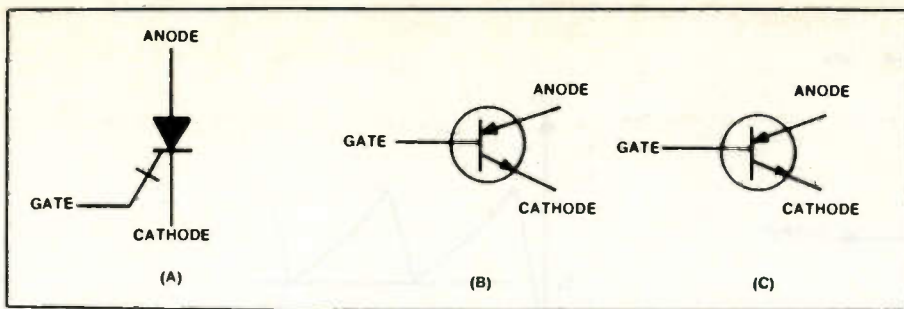
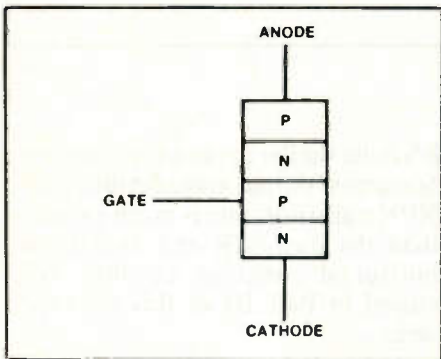

Figure 17.
Figure 18.
You should think of the GTO simply as a special type of SCR with gate turn-off capabilities. Three different GTO symbols are in common use, as seen in Figure 17. The arrows in (B) and (C) remind us that the anode consists of P-type silicon, while the cathode is N-type, as shown in the construction diagram of Figure 18. For example, the Figure 17(B) symbol is the one used by the Sony Corporation for the GTOs featured in the power supply regulator and horizontal output circuitry of their color TV sets. Sony calls these thyristors gate controlled switches (GCS).